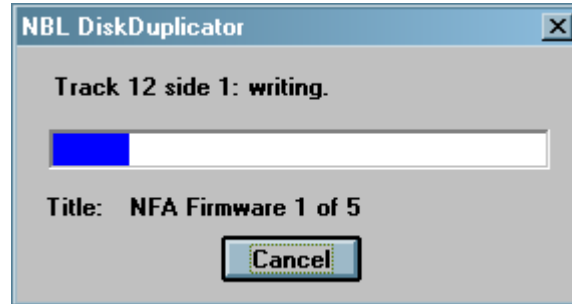

Figure 9
7. Insert the floppy diskette labeled "NFA Firmware 1 of 5" into the disk drive and click on "OK". The text box shown in Figure 9 will be displayed as the tracks are recorder onto the diskette.